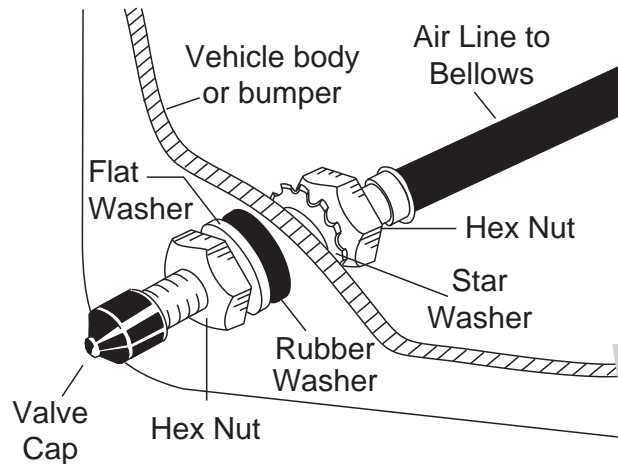

fig. 7
7. Use a standard tube cutter, a razor blade, or a very sharp knife to cut the air line. A clean square cut will ensure against leaks. Cut the air line assembly into the equal parts. Drill 5/16" hole for inflation valves and mount as illustrated. Rubber washer on the outside is for weather seal (Figure 7).